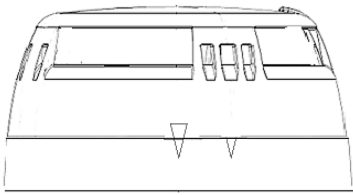

Figure 4
5. Verify the alignment between the ONED-ETECTORX_AP and the raised reference marks on the ONEBASE.(Fig4)